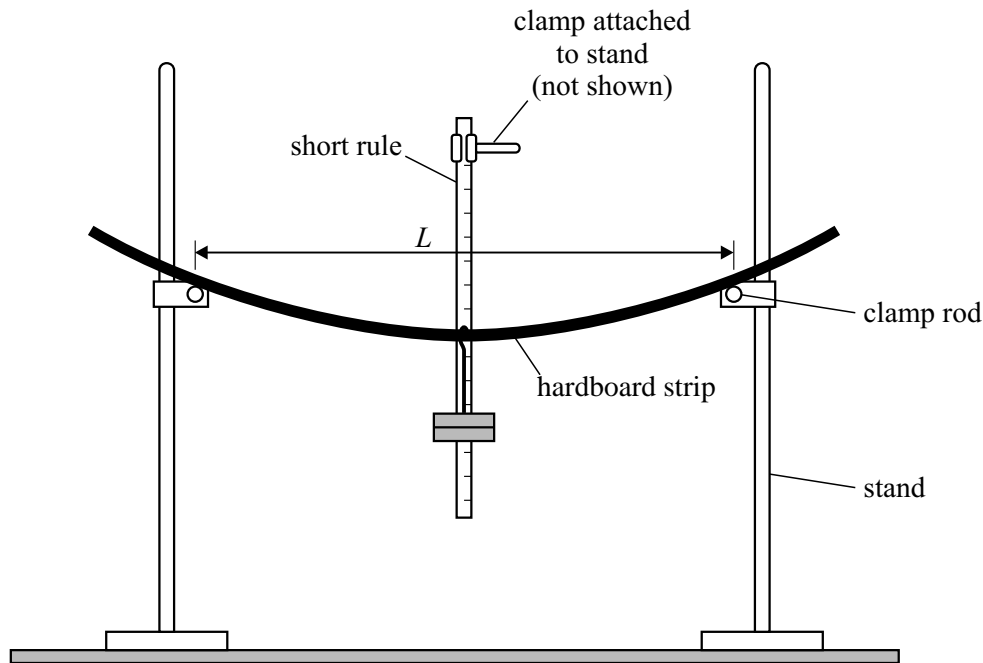

Figure 2
- (ii) Support a load of 0.50 kg from the centre of the strip as shown in **Figure 2** and record the new scale reading. Determine the depression d , in mm, of the centre of the strip when the load is added. (3 marks)